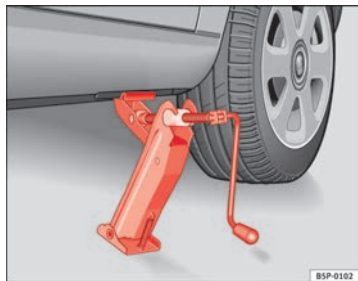

Fig. 178 Fitting the jack
- Align the jack so that the arm of the jack fits around the rib under the door sill and the movable base plate of the jack is flat on the ground ⇒ fig. 178.